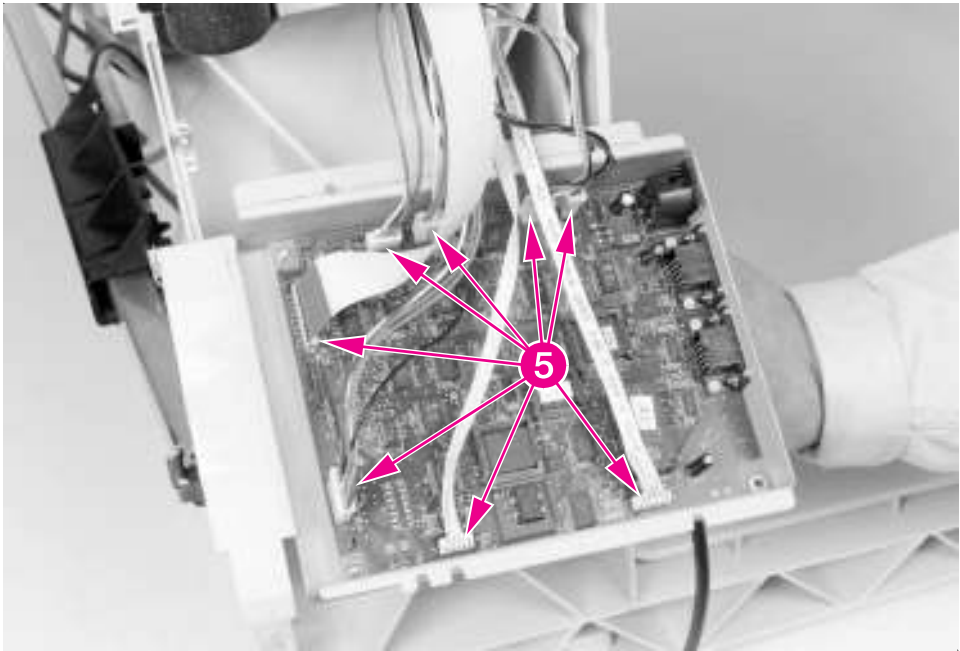

Figure 6-164 8-bin Mailbox Controller PCA (2 of 2)
- 9 Disconnect the 8 cables from the Controller PCA (Figure 6-164, callout 5).
- 2 Release the Controller PCA from the 8-bin Mailbox frame, but leave the wire cables connected to the Controller PCA (see Figure 6-164).